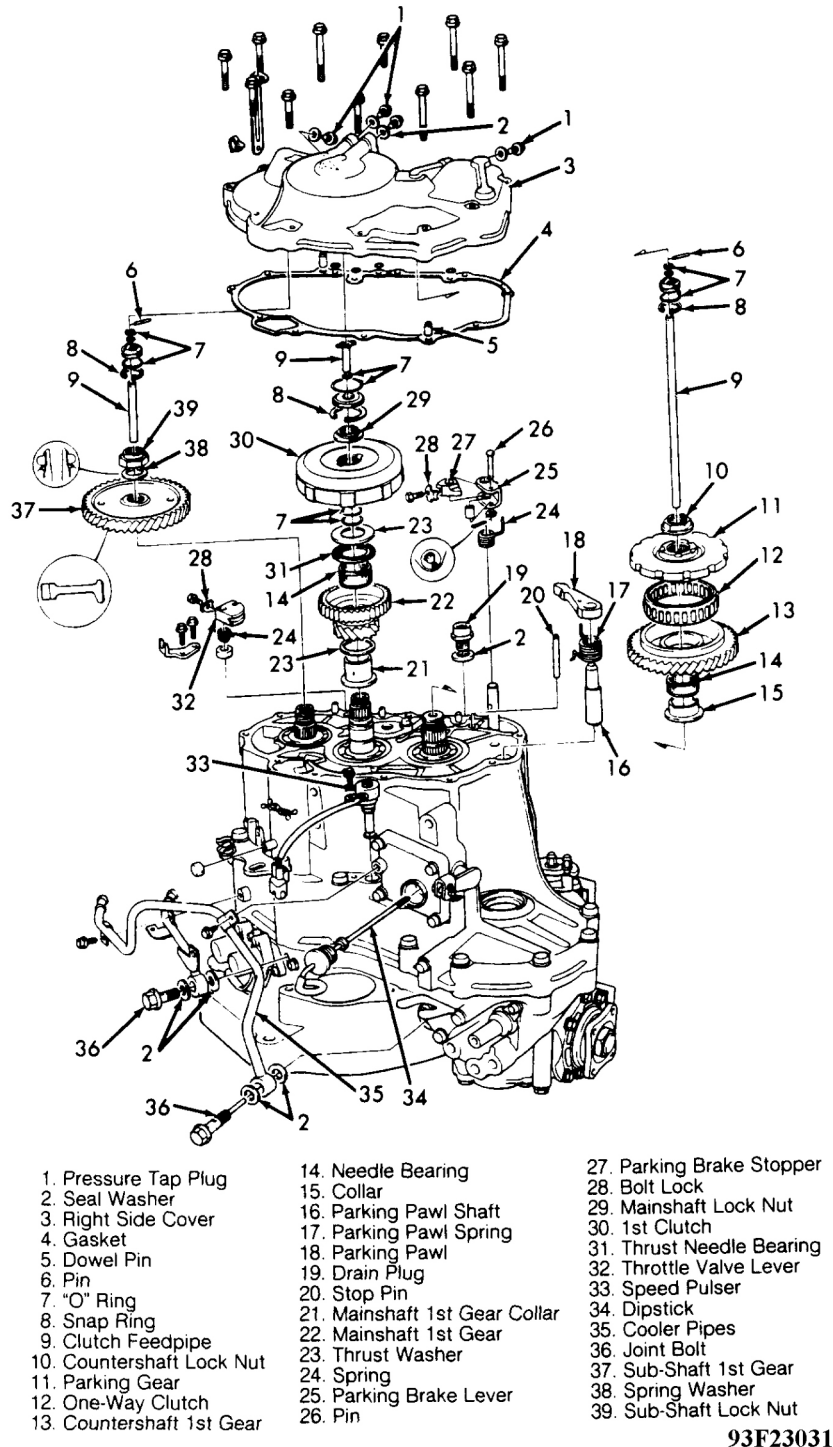
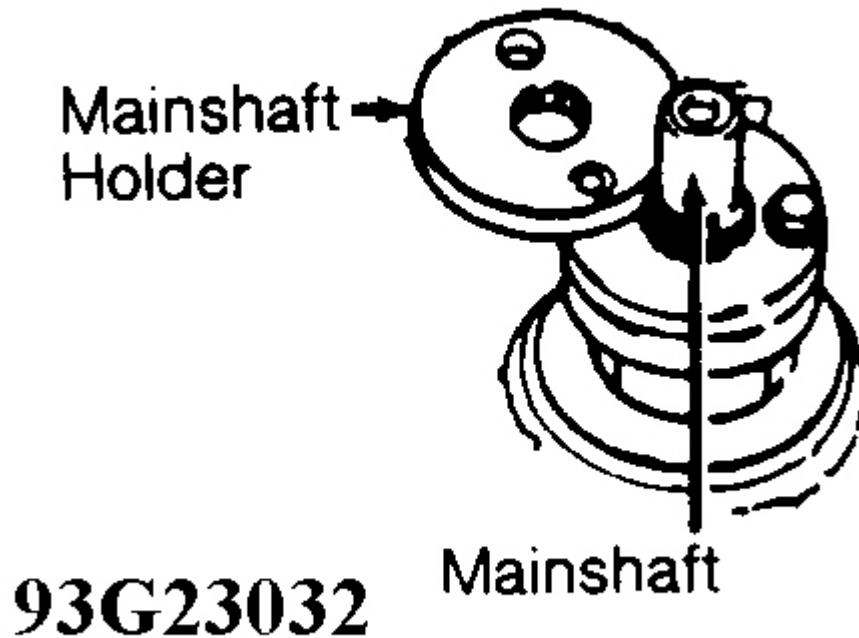

Fig. 5: Exploded View Of Right Side Cover & Components
Fig. 6: Installing Mainshaft Holder
1. Remove retaining bolts, right side cover and gasket. See Fig. 5 . Remove joint bolts, seal washers, cooler pipes and dipstick.
2. Install Mainshaft Holder (07923-6890202) on mainshaft to secure mainshaft. See Fig. 6 . Engage parking pawl with parking gear. Remove mainshaft lock nut. See Fig. 5 .
3. Remove 1st clutch, thrust washer, thrust needle bearing, needle bearing and mainshaft 1st gear. See Fig. 5 . Remove countershaft lock nut. Using puller, remove parking gear and countershaft 1st gear as an assembly from countershaft.
4. Remove needle bearing and collar from countershaft. See Fig. 5 . Remove parking pawl, parking pawl spring, parking pawl shaft and stop pin.
6. Using puller, pull sub-shaft 1st gear from sub-shaft. Remove bolt, bolt lock and throttle valve lever. See **Fig. 5** . Remove bolt, bolt lock and parking brake stopper.